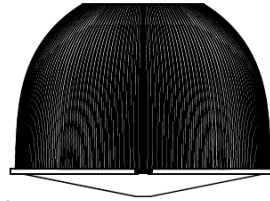

Figure 6
2. Place lens over opening of refractor and place clamp over lens and refractor rim. Place screw through hole in clamp and tighten clamp to secure. (See Fig. 6)